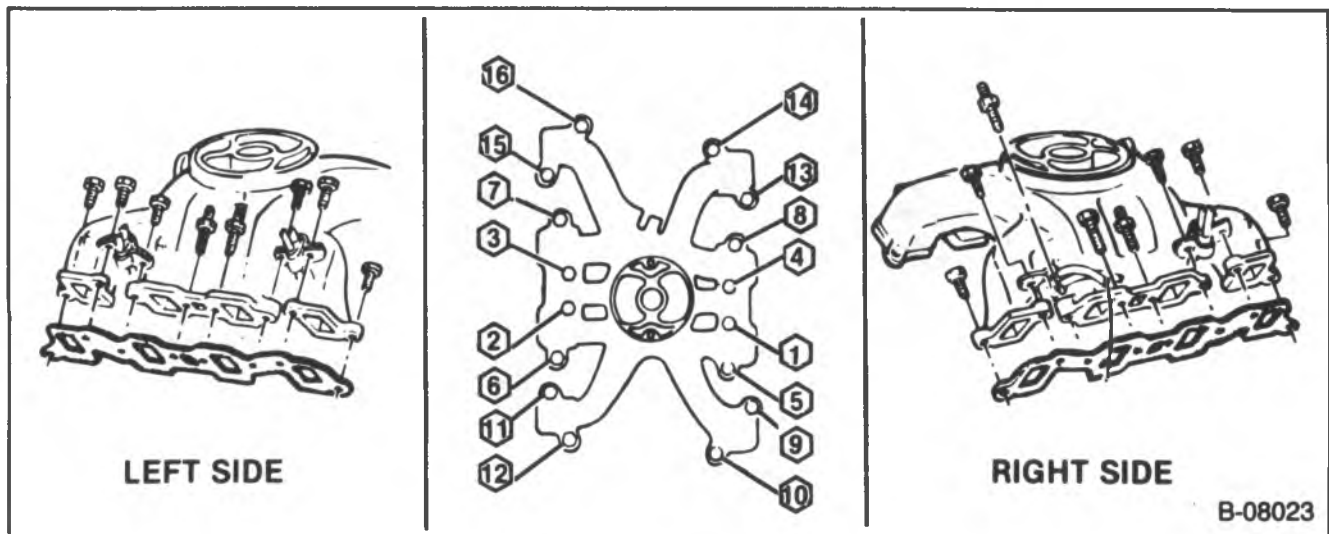

Figure 3 — Intake Manifold
Install or Connect (Figure 3)
- Intake manifold bolts to 42 N·m (32 ft. lbs.). Use tightening sequence shown in figure 3.